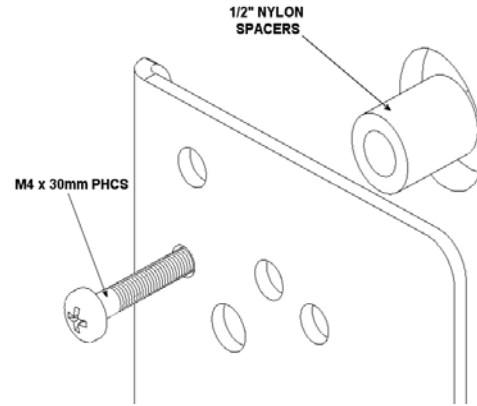
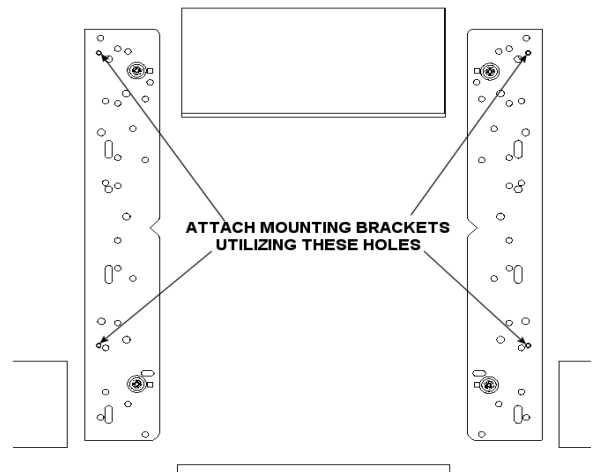

Figure 9. Spacer Installation for Group 2
Figure 10. Bracket Attachment for Group 2
3. Place the Nylon spacers over the four mounting holes on your Large Flat Panel display (see Figure 9).
4. Place the interface brackets over the Nylon spacers (see Figure 9 and Figure 10).
6. Using the hardware in parts bag C, attach the interface bracket to the display using the holes that line up with your Large Flat Panel display mounting holes (see Figure 9 and Figure 10). Do not overtighten the mounting screws.